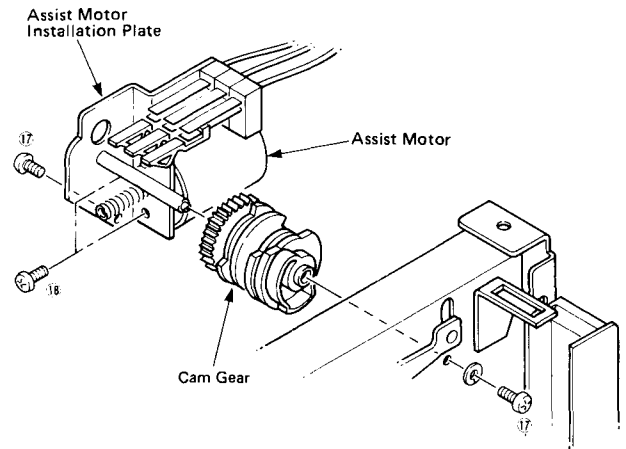

Fig. 10
- c. Remove 2 screws ⑰ in Fig. 10 and remove the assist motor installation plate.
- d. Remove 2 screws ⑱ in Fig. 10 and replace the assist motor.